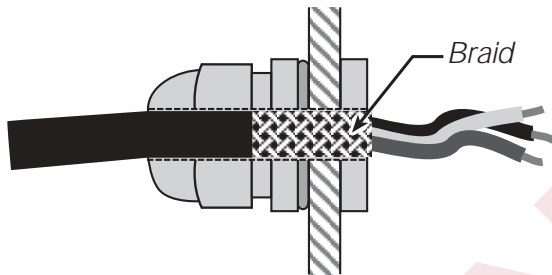

Figure 2-2. Braided Shield Cabling
5. For cables with braided shielding, cut the shield at the same location as the insulation, then strip an additional 15 mm of insulation from the cable to allow the shield to contact the inside of the metal cord grip (see Figure 2-2).
7. Route cables through cord grips so cable shield contacts cord grip fitting as shown in Figures 2-2 and 2-3. Tighten cord grips.